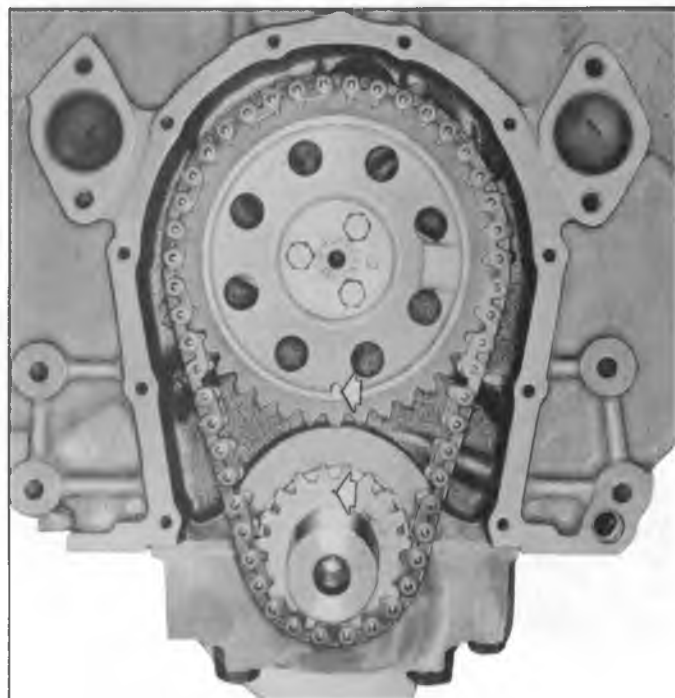

Fig. 15V—Timing Sprocket Marks
2. Crank engine until marks on camshaft and crankshaft sprockets are in alignment (fig. 15V).